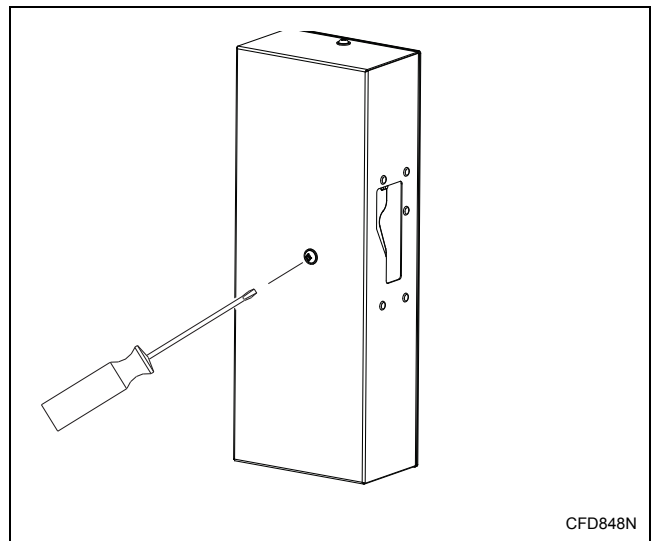

Figure 24
2. Unscrew the bolt in the lock cover, *Figure 24*. Insert a screwdriver into the hole in the lock cover and push softly.